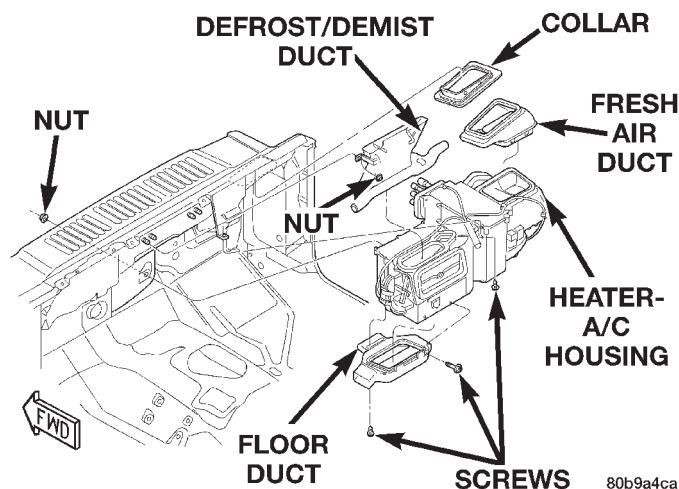

Fig. 48 Heater-A/C Housing Remove/Install
(5) Disconnect the accumulator inlet tube refrigerant line fitting from the evaporator outlet tube. See Refrigerant Line Coupler in this group for the procedures. Install plugs in, or tape over all of the opened refrigerant line fittings.
(6) Drain the engine cooling system. Refer to Group 7 - Cooling System for the procedures.
(7) Disconnect the heater hoses from the heater core tubes. Refer to Group 7 - Cooling System for the procedures. Install plugs in, or tape over the opened heater core tubes.
(8) Unplug the heater-A/C system vacuum supply line connector from the tee fitting near the heater core tubes.
(9) Remove the five nuts from the heater-A/C housing mounting studs on the engine compartment side of the dash panel (Fig. 48). If necessary, loosen the battery holddowns and reposition the battery for additional access. Refer to Group 8A - Battery for the procedures.